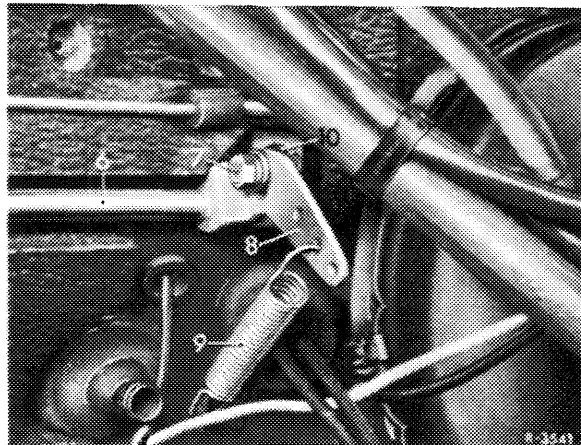

Fig. 07-3/8
9 Check full throttle stop with engine shut off. For this purpose, depress accelerator pedal from inside vehicle. Accelerator pedal and throttle valve lever should each rest against full throttle stop. If required, adjust control shaft (6) at front wall after loosening fastening screw (7) (Fig. 07-3/8).